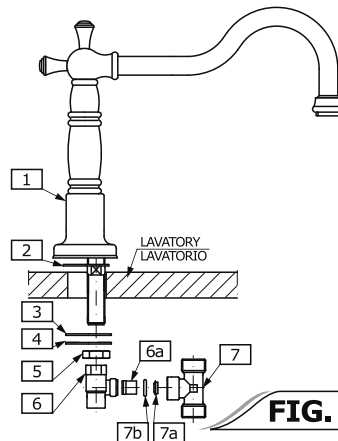

FIG. 4a
See fig. 4a
● Make sure that the nozzle (7a) and seal o-ring (7b) are inside of the T-connection (7). Next screw on the T-connection (7) onto diverter (6) as shown in (fig. 4a) firmly but do not overtighten.